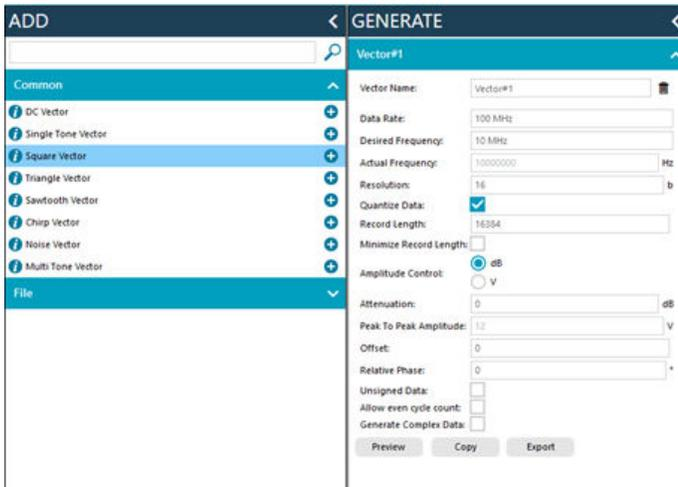

Figure 39. Common Vector Options
1. The **ACE Software** does not load the common vector options (see Figure 39), which is related to a bug in the **Core ACE Software**. The only known fix is to restart the **ACE Software**.